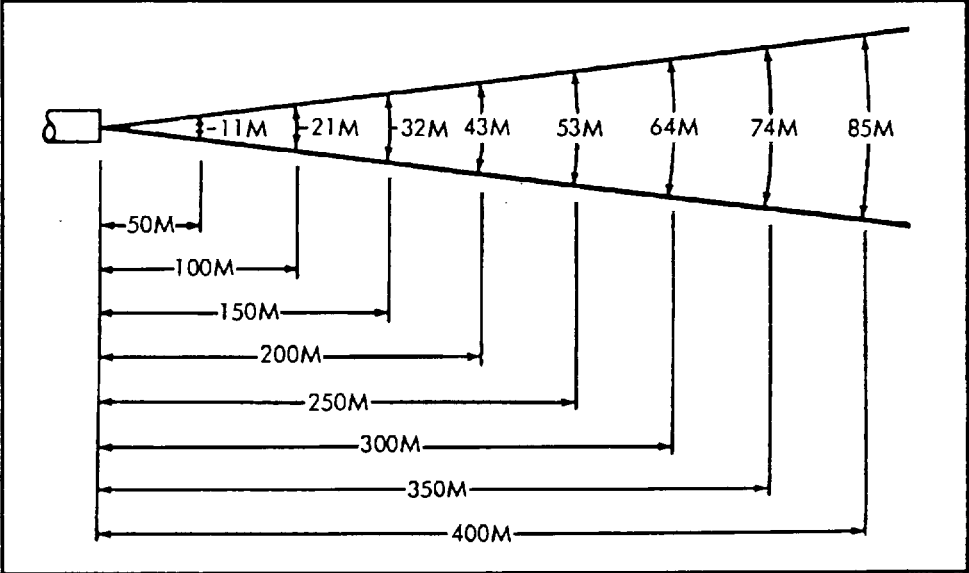

Figure 4-4. 152-mm Dispersion-Pattern for Canister Cartridge M625 Series
- (1) Ensure that round is free of sand, mud, snow, ice, grease, or other foreign matter. Contamination may result in hot residue in gun chamber.
- (2) If cartridge is accidentally dropped, check by feeling through barrier bag for open cracks in case or separation of base from body of cartridge case. Visually check for dented projectile and loose windshield (nose) cap.
- (3) Before firing canister cartridge M625 series, clear all personnel from dispersion area (see figure 4-4). Firing over friendly troops is prohibited.
• The canister M625 series cartridges are loaded with flechettes that function directly in front of gun muzzle. The dispersal pattern of the flechettes is shown in figure 4-4. For best results, with a target between 200 and 400 meters, elevate gun to 1200-meter graduation on gunner's telescope or periscope.